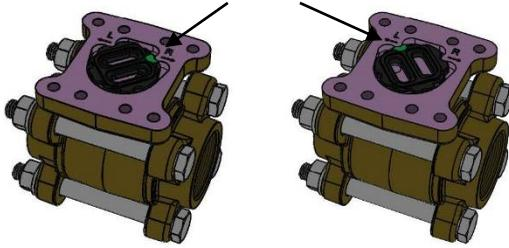
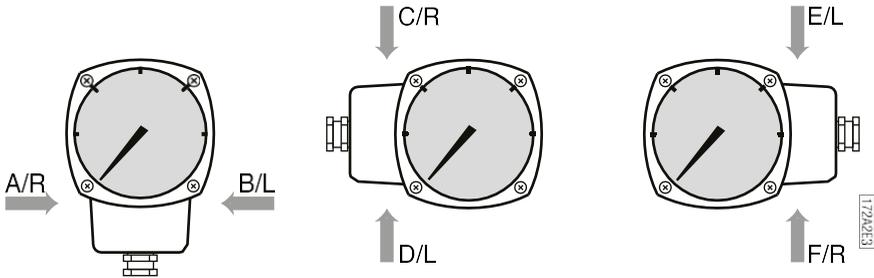

Figure 8
Figure 9
At the time of ordering, you must specify in which direction the Flow Monitor shall be mounted i.e. from which side is the flow entering the Pipe Section and how you would like to read the scale. (Please refer to fig. 8 below for alternatives.) If, for some reason, the Flow Monitor is ordered with the wrong flow direction, it is possible to change this in the field.
To change the direction, loosen the four (4) hexagon screw, which hold the diaphragm housing to the Pipe Section. Remove the diaphragm housing and you will see the flow direction selector, figure 8, (it might have attached itself to the bottom side of the diaphragm housing). Replace the flow direction selector in the configuration for your system (see fig. 9).
As the Eletta Flow Monitors are not limited to a certain mounting position in the piping system, the large visible dial can be mounted in several positions to suit the application. (please refer to fig. 9). If you need to change the orientation in the field, please do as follows;